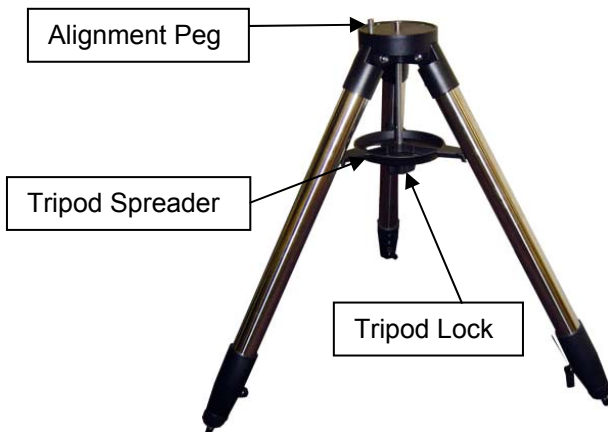

Figure 1
2. **A. Setting Up Tripod:** Expand the tripod legs and lock the Tripod Spreader so that the tripod legs stay open (**Figure 1**). Adjust the tripod height by unlocking and re-locking the tripod legs to desired height. Position the tripod so that the Alignment Peg faces north. (*The Alignment Peg may be moved to the opposite position if used at latitude lower than 20° to avoid counterweights hitting the tripod leg.*)